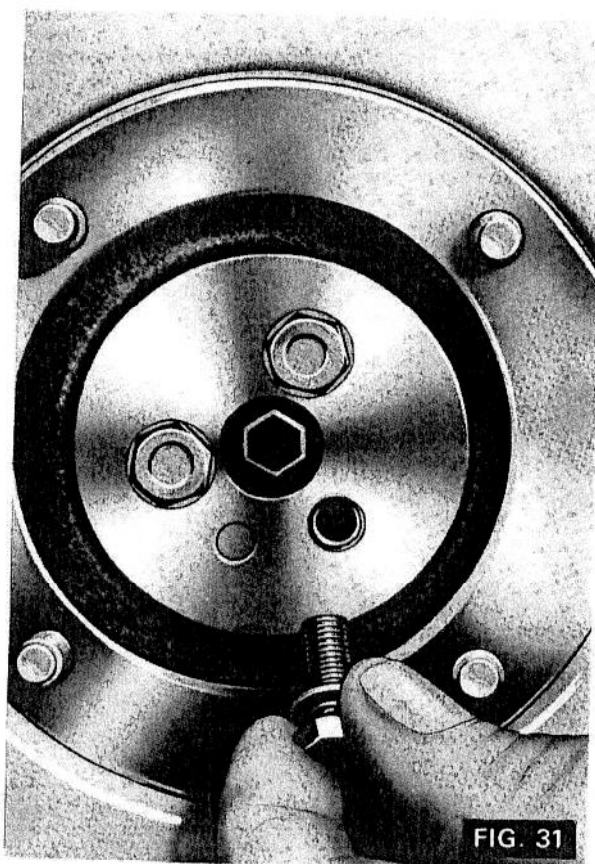

FIG. 31
2. Remove the three setscrews and spring washers which secure the gear to the fuel pump shaft. (Refer to Fig. 31).